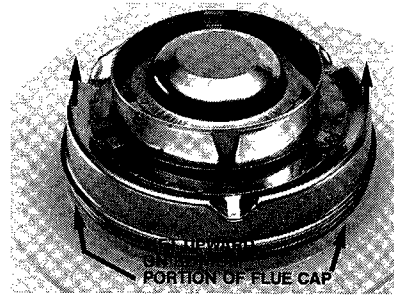

FIG. 8
2. Close the manual gas valve. Remove mounting screws and flue cap from unit. Lift it upward. See Fig. 8.